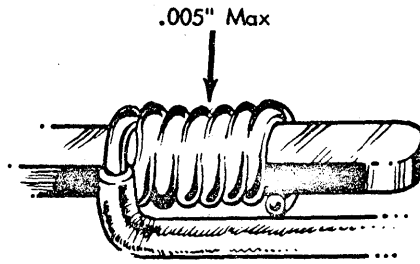

Figure 8-4. Wire-Wrap Connection
**NOTE:** If too much pressure is used to push the tool on the terminal, a turn of wire may wrap over a previous turn. If too little pressure is exerted, the adjacent wraps of wire may not touch each other. Maximum separation between individual turns on the terminal must not exceed  $.005''$  excluding the first and last wrap (Figure 8-4).